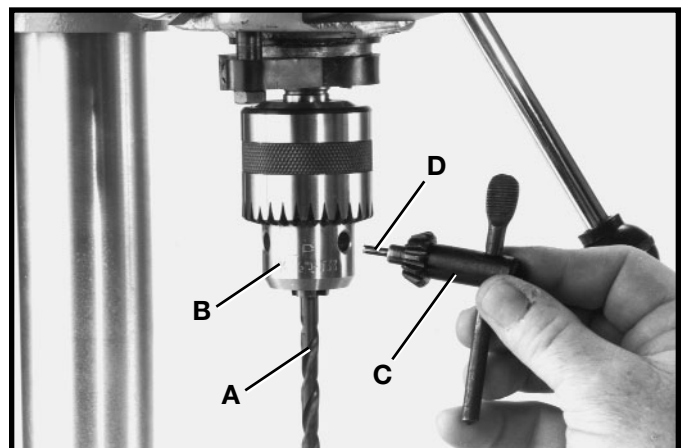

Fig. 35
1. Insert smooth end of drill bit (A) Fig. 35, as far as it will go into the chuck (B), and then back the bit out 1/16", or up to the flutes for small bits.
2. Make certain that the drill bit (A) Fig. 35, is centered in the chuck (B) before tightening the chuck with the key (C).
3. Turn the chuck key (C) Fig. 35, clockwise to tighten and counterclockwise to loosen the chuck jaws.
5. **MAKE SURE** chuck key (C) Fig. 35, is removed from chuck before starting drill press. Your chuck key (C) is equipped with a self-ejecting pin (D) which eliminates the hazard of the key being left in the chuck.